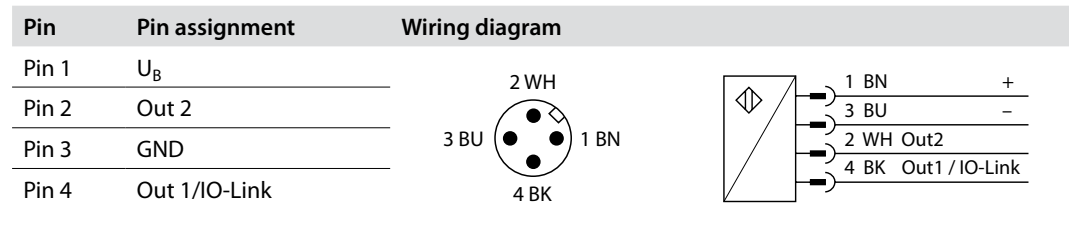

Fig. 15: Wiring diagram
- Connect the open end of the connection cable as shown in Fig. 15 and the terminal layout of the particular connected device to the IO-Link master, fieldbus device or controller with the corresponding inputs.